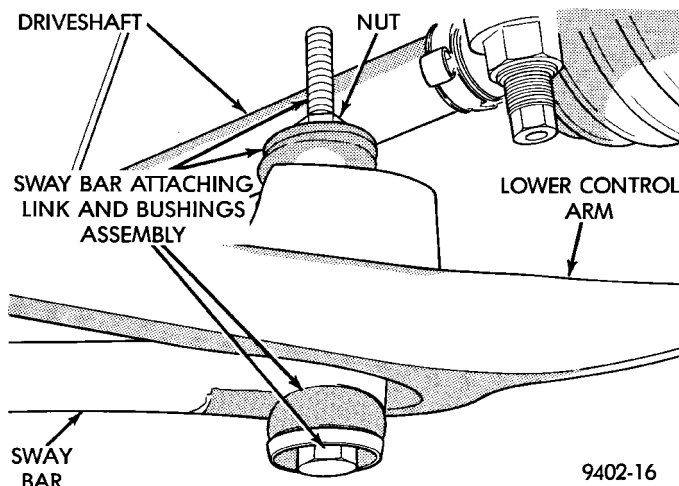

Fig. 38 Installed Stabilizer Bar To Lower Control Arm Attaching Link
(5) Rotate stabilizer bar into position, installing the stabilizer bar link assemblies into the lower control arms. Then install the top stabilizer bar link bushings and nuts (Fig. 38). **DO NOT TIGHTEN LINK ASSEMBLIES AT THIS TIME**
(6) Lower vehicle so suspension is supporting the total weight of the vehicle.
(7) Torque the stabilizer bar to lower control arm link assemblies (Fig. 38) to 28 N·m (21 ft. lbs.).